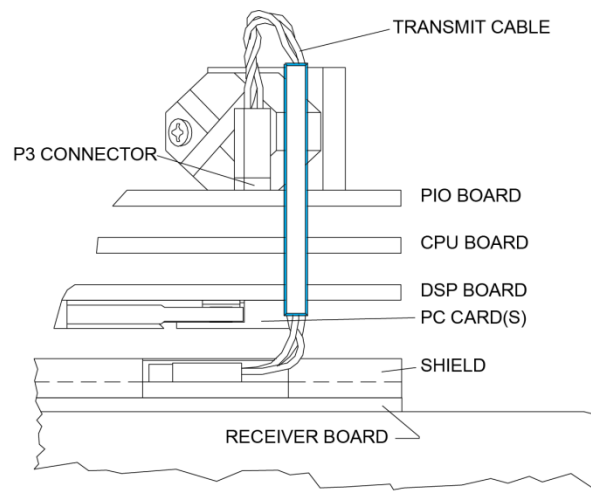

Figure 60. Transmit Cable
3. Note the orientation of the transmit cable connector as it is plugged into the PIO board and to the Receiver board (see Figure 60).